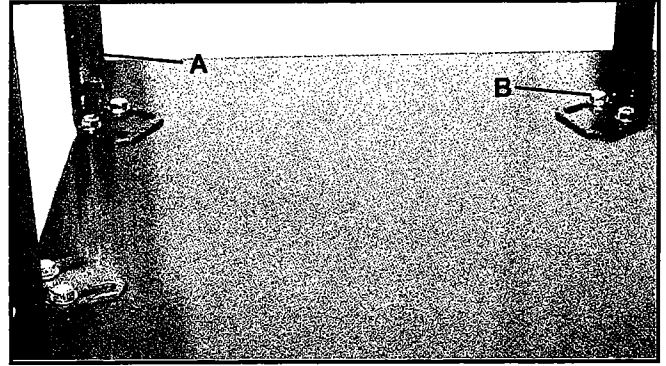

Fig. 4
4. Attach three support brackets (A, Fig. 4) to base using six M8 x 16 hex cap bolts and six M8 flat washers (B, Fig. 4). Hand tighten only at this time.